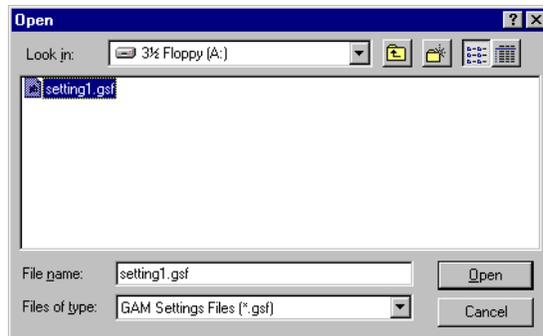

Figure 5-25. Open Previously Saved Settings
1. Click Open Settings. An Open dialog box is displayed (Figure 5-25).